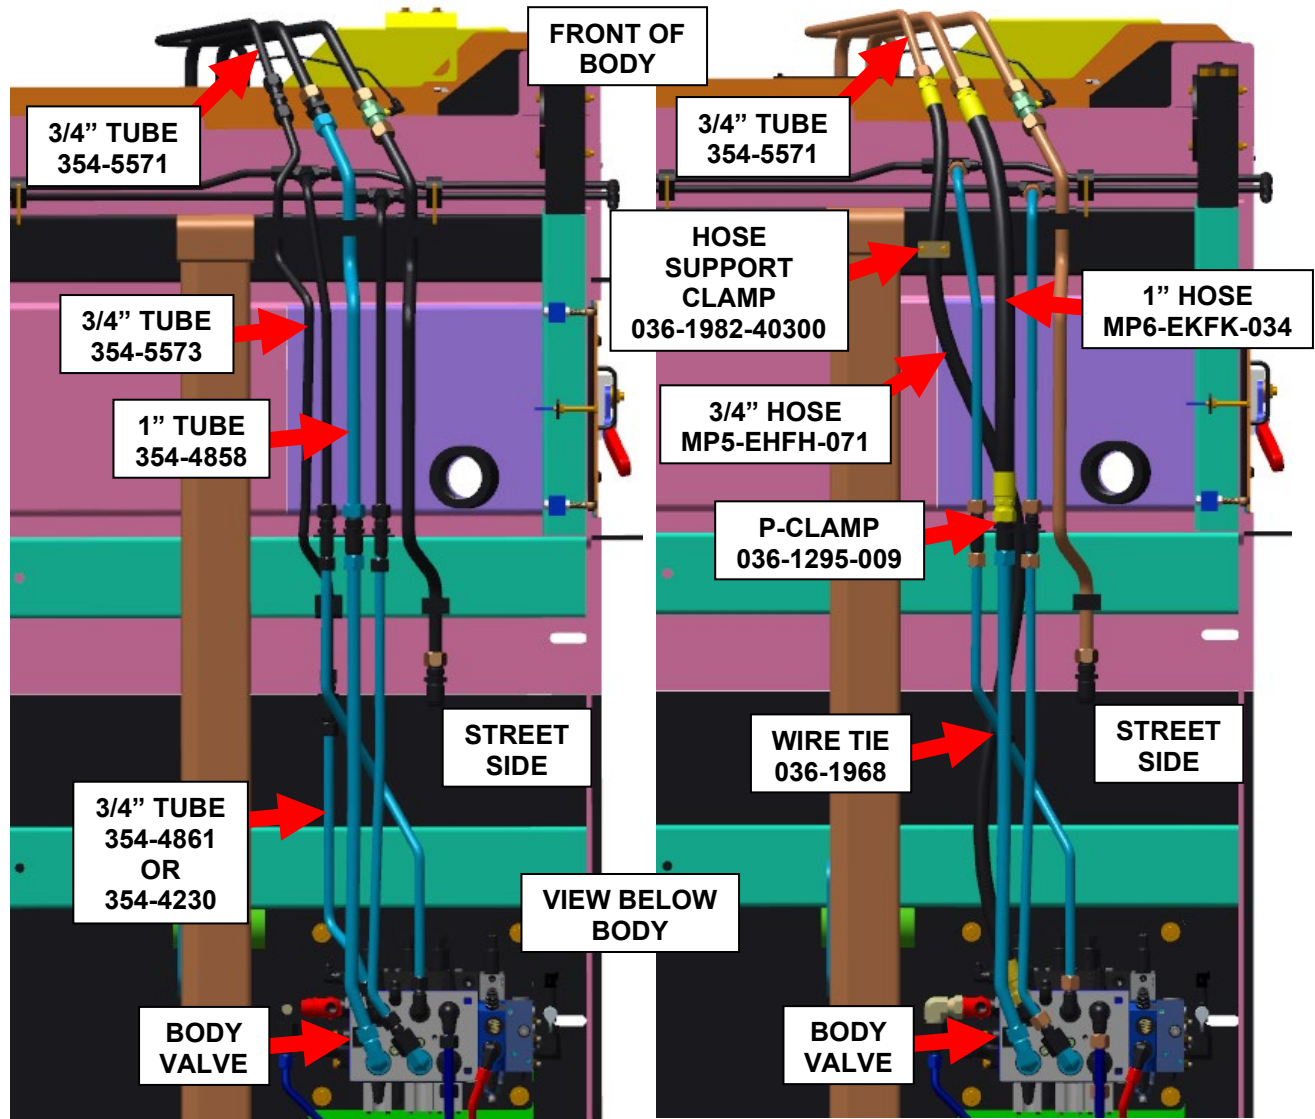
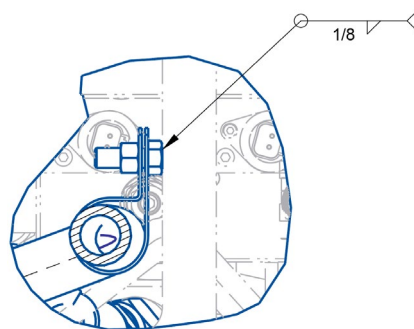

Figure 1. View from Below Body of “Old” and “New” Front Head Hydraulic Configurations
Figure 7. Weld Details for Hose Support P-Clamp (036-1295-009)
- (4) Inspect all hydraulic tube support clamps beneath the hopper. Typically, these will not require re-work.
- (5) Reference **Figure 1** to identify the four (4) front hydraulic tubes to be replaced: 354-5571, 354-5573, 354-4858, and 354-4861 for Half/Pack® (featuring Odyssey® Controls) or 354-4230 for Half/Pack®. Remove any hydraulic tube clamps from these four hydraulic tubes.
- (6) For each of the four tubes being replaced, detach its hydraulic fittings. Drain any remaining oil from the old tubes into the container, and then properly discard the old tubes. **DO NOT REUSE THE HYDRAULIC OIL DRAINED FROM THE SYSTEM DURING DISASSEMBLY.**
(2) Install Wire Tie (036-1968) and Hose Support P-Clamp (036-1295-009) in the locations shown in **Figure 1**. Also see **Figure 7** for Hose Support P-Clamp weld details.
Referencing **Figure 1**, carefully follow the procedure below, using a backup wrench to ensure that the hoses do not twist while tightening the fittings.